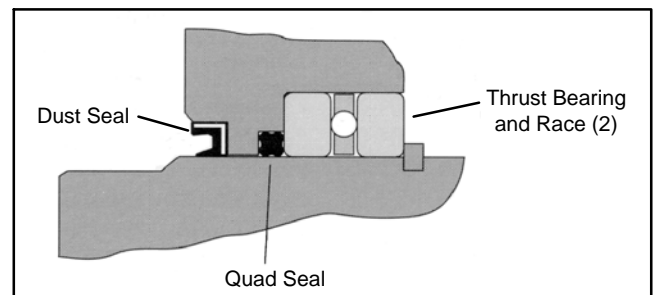

Figure 26
8. Put the thrust bearing and bearing races into the housing. The thrust bearing goes between the two bearing races (Fig. 26).